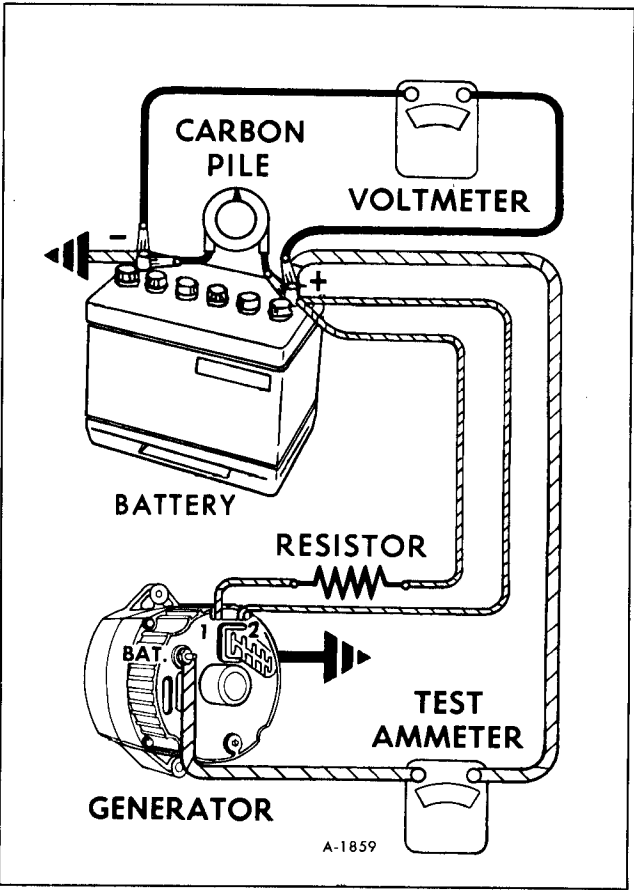

Figure 20–Connections for Testing Generator Output
1. Make connections as shown in Figure 20 except leave the carbon pile disconnected. Use a fully charged battery and a 10-ohm resistor rated at 6 watts or more between the generator No. 1 terminal and the battery.
4. Connect the carbon pile as shown in Figure 20.